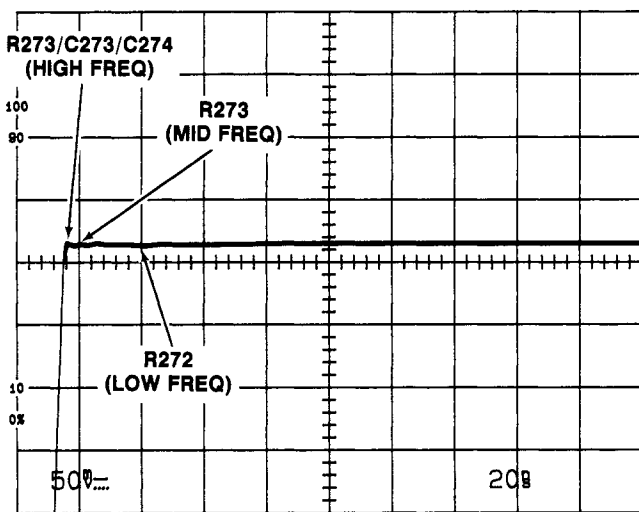

Figure 5-1. Areas of waveform affected by HF compensation adjustments.
- e. ADJUST—Delay-Line HF Compensations (R272, R273, R275) for flattest response and (C274, C273) for sharpest front corner with minimum overshoot. Figure 5-1 shows the area of the waveform affected by each adjustment.